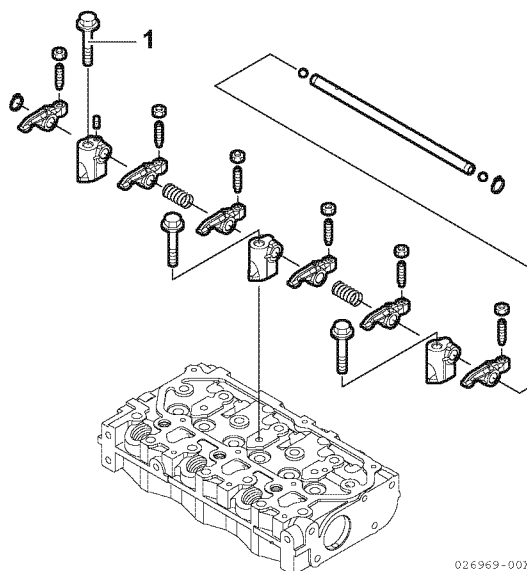

Figure 6-4
1. Remove the bolts (Figure 6-4, (1)) that retain the rocker arm shaft supports.